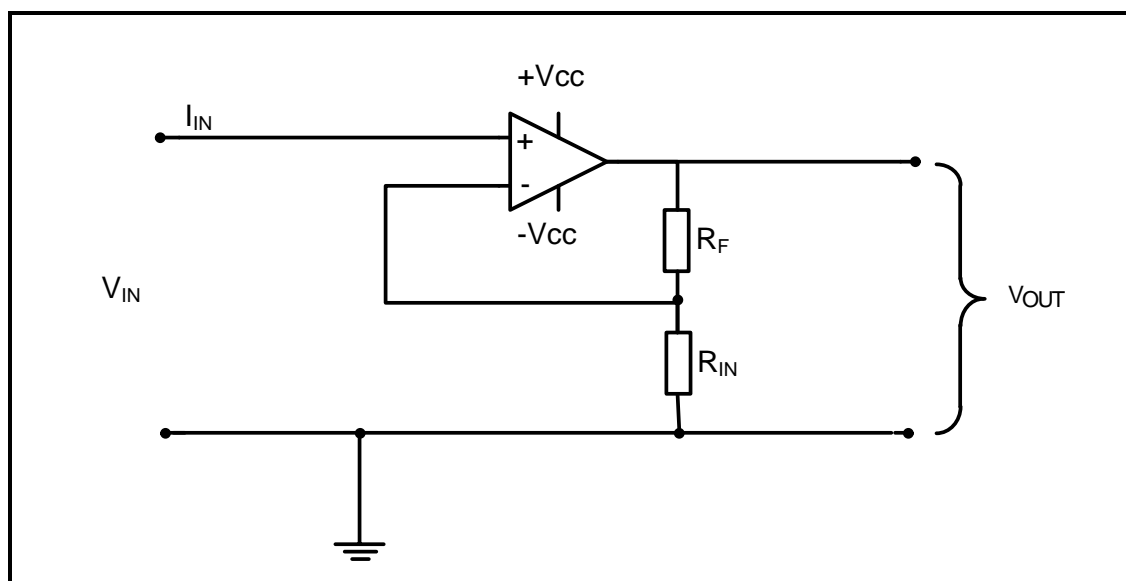

FIGURE 7.2: NON-INVERTING OP AMP CIRCUIT
7.7 Refer to FIGURE 7.2 below and answer the questions that follow.